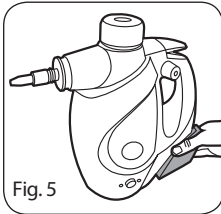

Fig. 5
1. Squeeze the tabs on the sides of the cleaning solution tank to remove it out of the steam cleaner as shown (Fig. 5).